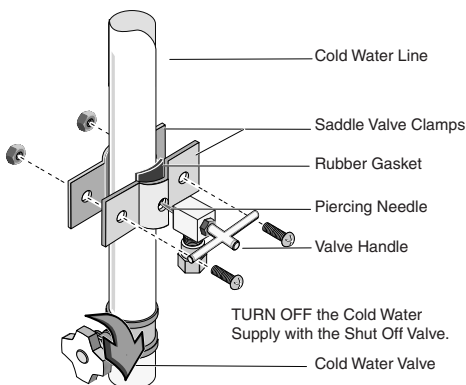

Figure 5
Install the saddle valve; See Figure 5.
8. Install the saddle valve on the cold water line as shown in Figure 5.